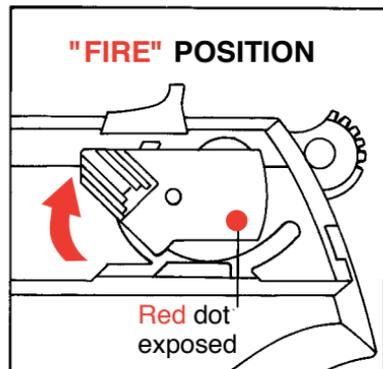

FIGURE 2
8. If the pistol is to be fired immediately, the manual safety can be rotated upward to its “fire” position (see Figure 2, p. 12). The firing pin is still blocked at all times by the internal firing pin block unless the trigger is pulled all the way to the rear.